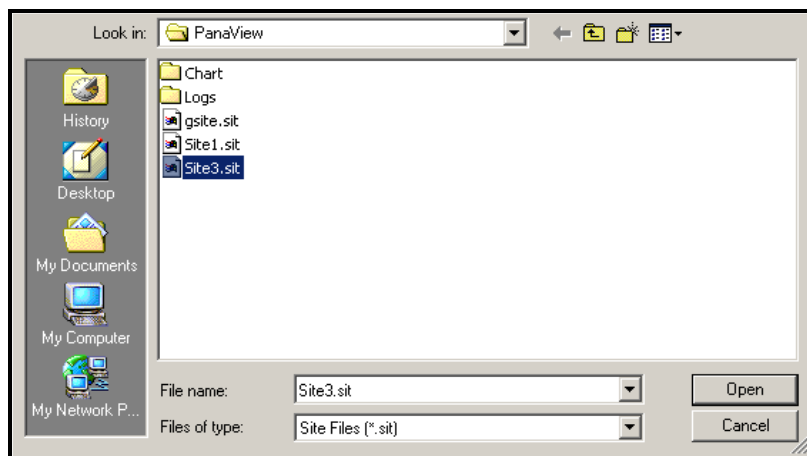

Figure C-15: Site File Selection
2. Then click on the *Save Site to Meter* button. A screen opens similar to Figure C-15 below.
3. The *Site File Selection* window (Figure C-15 on page C-12) opens. Highlight a site with the desired settings, and click [Open]. PanaView saves the site in the meter with the new name and the desired settings.
3. The *Site File Selection* window opens (refer to Figure C-15 on page C-12). Enter the desired site name (now with a .prt suffix) and click [Save]. PanaView displays a text version of the site, as shown in Figure C-17 below.